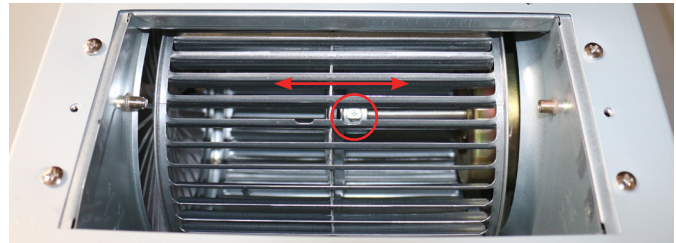

Figure 4 Fixing Screw
- Rotate the fan wheel so that the blade with two small cuts is facing you. (Figure 4)